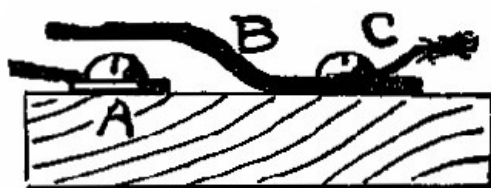

Fig. 14.
**45. Push-Button.** Fig. 14. This is made quickly, and may be easily fastened to the window or door-casing. One wire is joined to *A* and the other to *C*. *B* is a strip of tin or other metal, about  $\frac{5}{8}$  in. wide and 2 in. long. It is bent so that it will not touch *A* unless it is pressed down. This may be placed anywhere, in an electric-bell circuit or other open circuit, where it is desired to let the current pass for a moment only at a time.